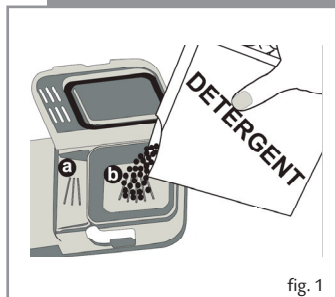

fig. 1
2. Add the required amount of detergent. The main detergent compartment (b in figure 1) has lines to allow for specific amounts of detergent. These are marked at either 15 cm³ or 25 cm³, depending on how dirty the dishes are. If your dishes are in need of an intensive wash, then add 5 cm³ of detergent into the prewash section of the compartment (a in figure 1).